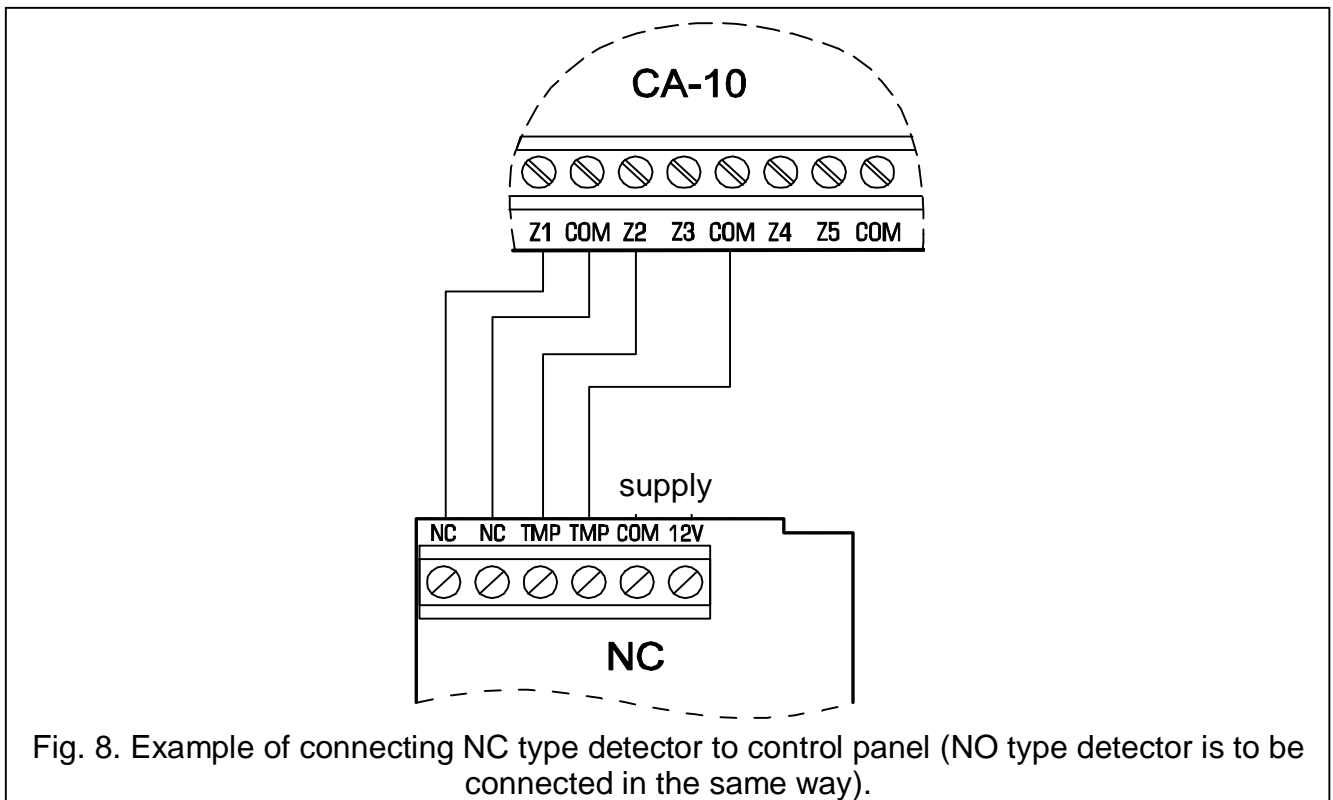

Fig. 8. Example of connecting NC type detector to control panel (NO type detector is to be connected in the same way).
- For figures 8, 9 and 10 it is assumed that the zone no. 2 is a tamper line (preprogrammed as: 24H TAMPER line).